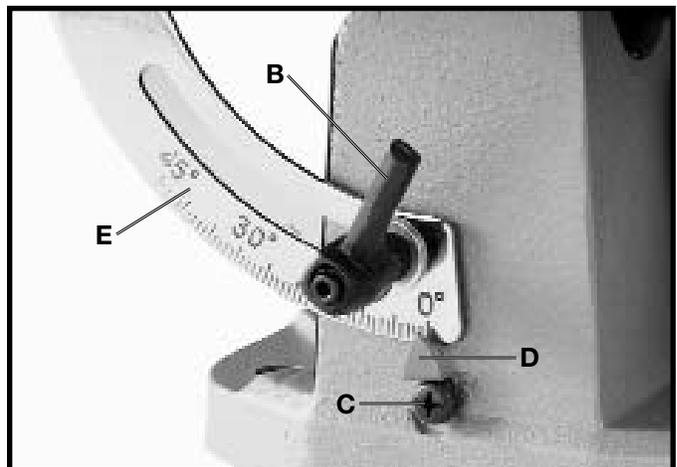

Fig. 23
2. If the table is not at 90 degrees to the blade, loosen table lock handle (B) Fig. 23, and adjust the table until it is 90 degrees to the blade. Then loosen screw (C) and adjust pointer (D) until it points to the 0 degree mark on the scale (E).